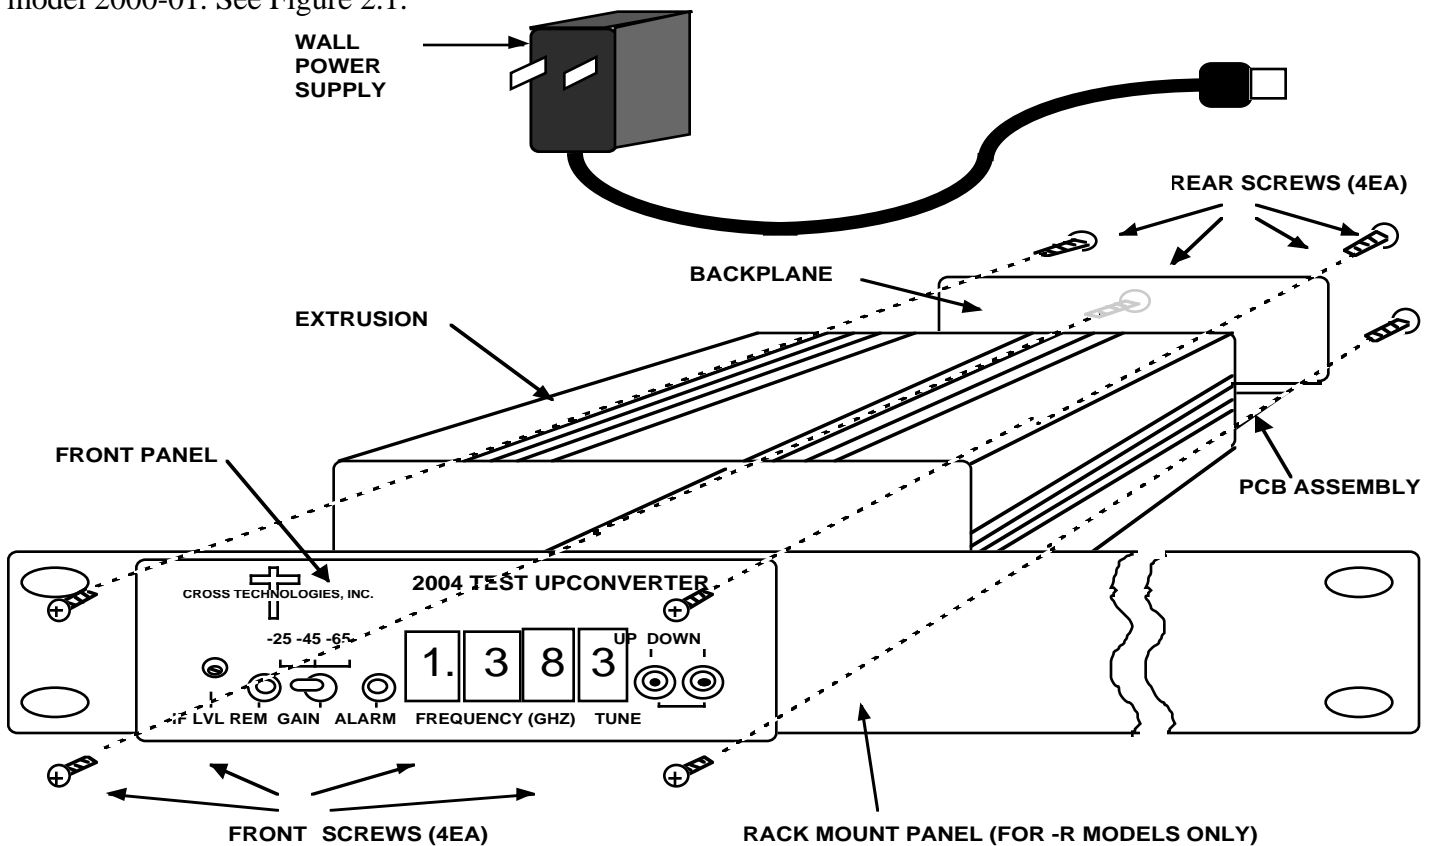
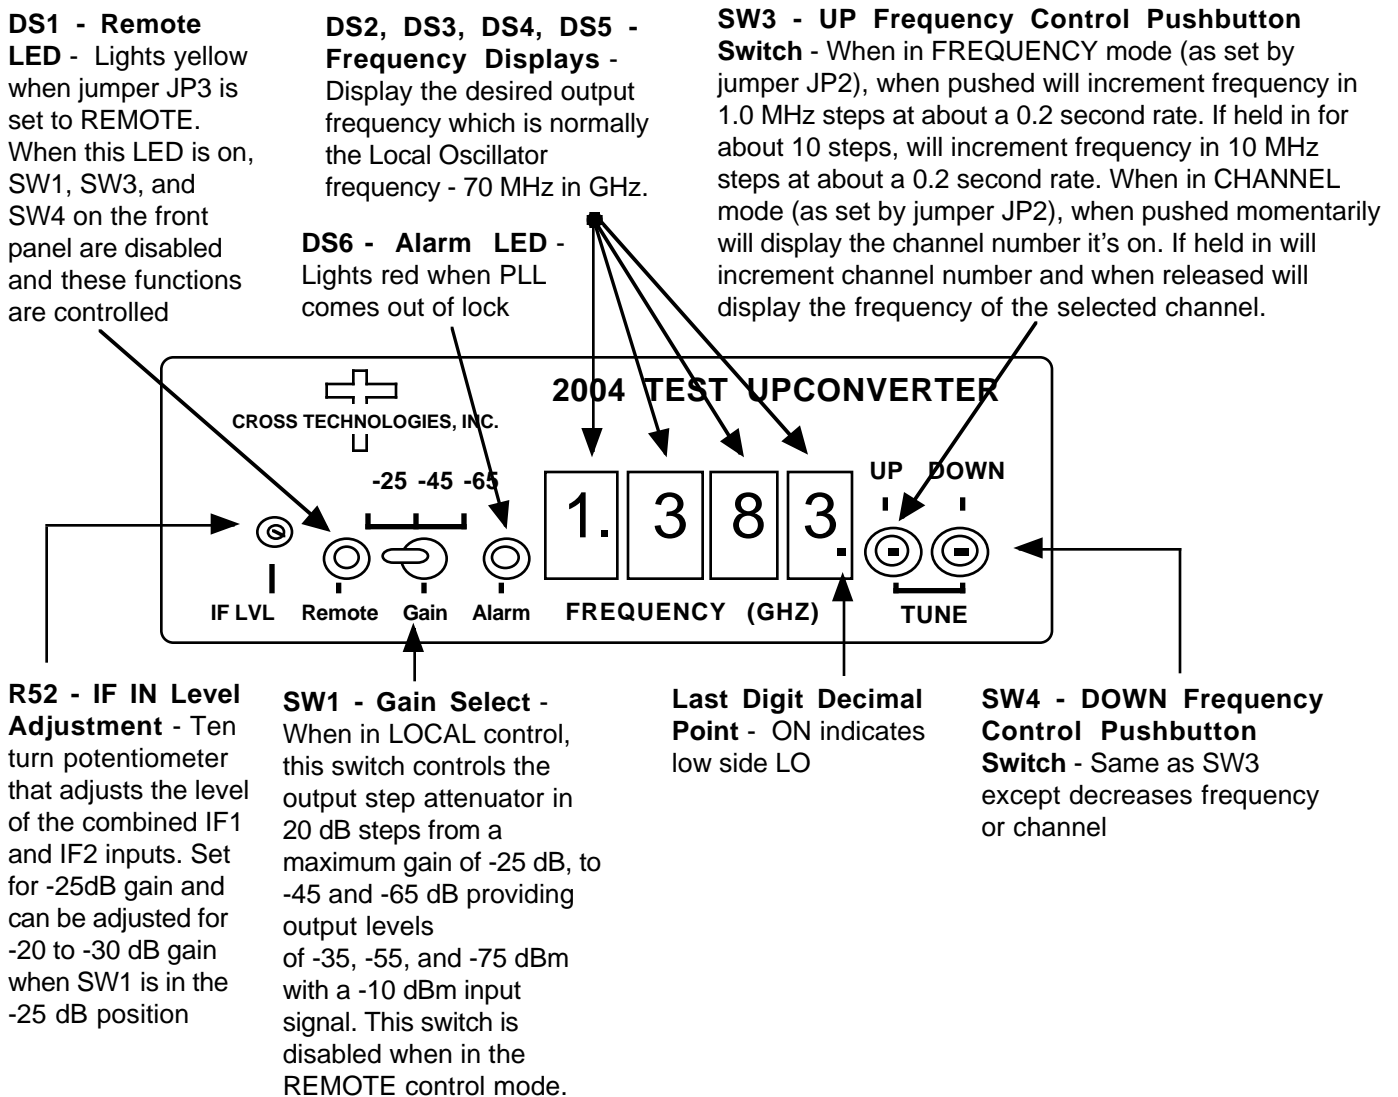
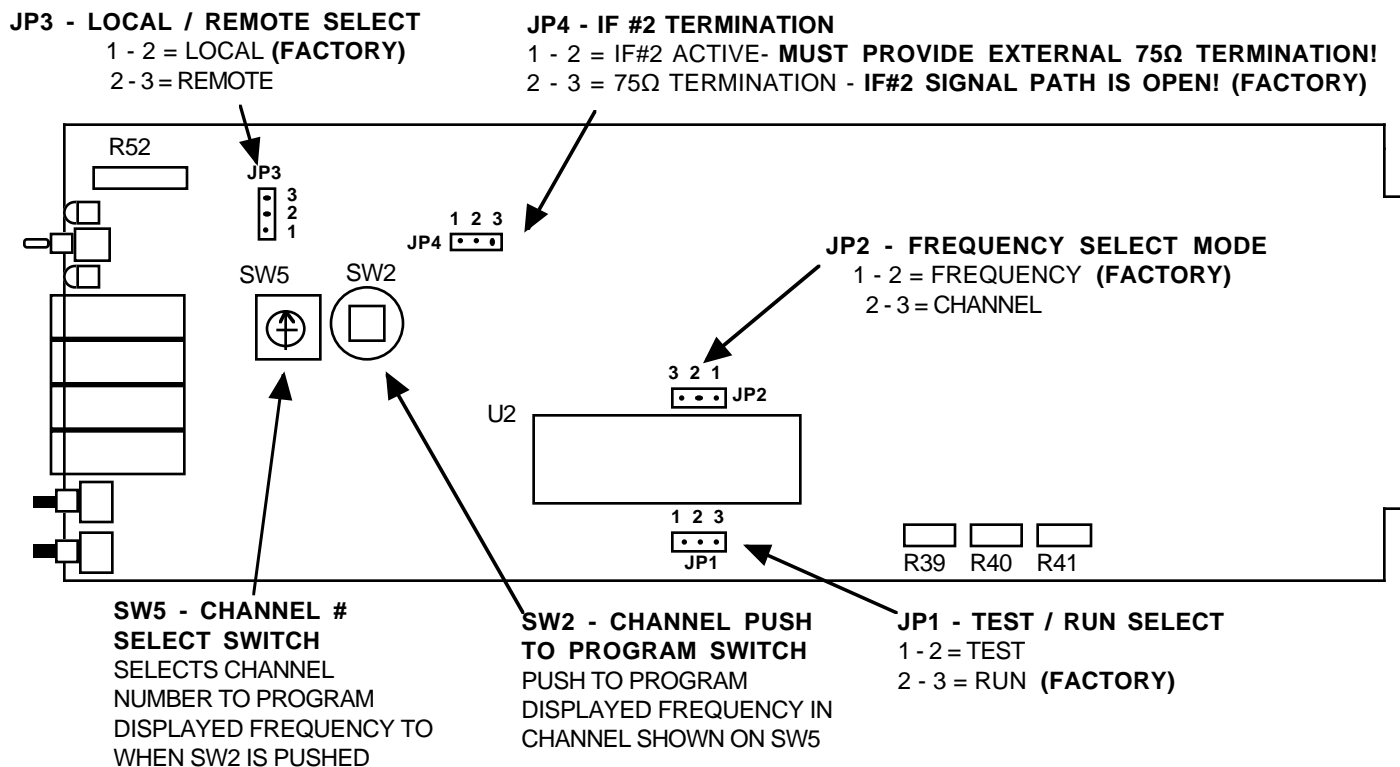

FIGURE 2.1 SERIES 2000 ASSEMBLY DRAWING
FIGURE 2.2 2004-10 Front Panel Controls and Indicators
FIGURE 2.4 2003 and 2004 On-Card Jumpers and Controls (See Section 2.4 for instructions on removing the PCB from the extrusion)
2.1 Mechanical - The 2004-10 and 2004-10R are packaged in an aluminum extrusion. The 2004-10R is mounted on a 1 3/4" X 19" panel that can be mounted to a rack using the 4 holes at the ends. Both units derive $\pm 15V$ from the wall power supply or an external regulated power supply such as the Cross Technologies, Inc. model 2000-01. See Figure 2.1.
2.2 Controls and Indicators - Figure 2.2 shows front panel controls and indicators.
2.4 Accessing and Changing On-Card Jumpers and Controls - Figure 2.4 shows jumpers (with factory settings) and other on-card controls. To remove the printed circuit board (PCB) from the extrusion for access to the jumpers and controls:
- 1.) Remove four (4) **rear panel screws** (see Figure 2.1).
- 3.) With the **wall power supply disconnected**, move jumpers to the desired positions (Figure 2.4).
- 7.) Install four (4) **rear panel screws**.
- 1.) If required, check that on-card jumpers are set to the desired positions (Figure 2.4)
- 2.) Connect the wall power supply to the 2004-10 and the wall power supply to 115 VAC, 60 Hz (Figure 2.1)
- 3.) Connect a -10dBm signal to IF #1 In (Figure 2.1, Figure 2.3)
- 4.) Connect a -10dBm signal to IF #2 In (Figure 2.1, Figure 2.3). If this port is not used it must be terminated in 75Ω by connecting on-card jumper JP4 in the 2-3 position (Figure 2.4).
- 5.) Set the desired frequency by pushing SW3 or SW4. If numbers 0 to 9 appear when pushing SW3 or SW4, the 2004-10 is set for the channel mode (with on-card jumper JP4, Figure 2.4). See section 2.5.2 for frequency setting information.
- 6.) Set SW1 for the desired gain (Figure 2.2).
- 7.) Be sure DS1 and DS6 are off (Figure 2.2).
- 8.) If needed, R52 can be adjusted (Figure 2.2) for input signals that are different than -10 dBm (-5 to -15 dBm). Note that this adjusts the levels of both IF #1 and IF #2 and uncalibrates the 2004-10 from its -10 dBm input setting.
- 2.) **To go to the change modes function**, simultaneously **press and release both the Up and Down pushbutton** switches (SW3 and SW4, see Figure 2.2). The current IF frequency is shown on the displays.
- 5.) **To check the selected IF frequency**, momentarily **press and release both the Up and Down pushbutton** switches (SW3 and SW4, see Figure 2.2)
2.5.4 Frequency Setting, Channel Mode - A second tuning mechanism is channel selection. This is accomplished when the on board three-pin jumper (JP2) (Figure 2.4) is set to the "channel" position. Ten preset channels (0-9) can be selected as follows:
1. The 2004-10 PCB is removed from the extrusion (see section 2.4 for instructions) to access the channel selecting decimal switch (SW5) and the push to program switch (SW2) (Figure 2.4). With the display mode jumper (JP2) set in the frequency mode, the frequency set switches (SW3,SW4) are pushed to the frequency desired (Figure 2.2).
2. The decimal switch (SW5) is set to the channel number desired to be programmed (Figure 2.4).
3. Push programming button (SW2) to program the displayed frequency into that channel number (Figure 2.4).
5. When finished, set JP2 (Figure 2.4) in the "Channel" position if this tuning mechanism is desired.
2.5.5 Remote Operation - Frequency control and setting of the output attenuator can be remotely commanded from an external (not supplied) PC using a simple DOS program. To place the 2004-10 in the Remote mode, place on-card jumper JP3 in the REMOTE (pins 2-3) position (Figure 2.4) and observe yellow LED DS1 (Figure 2.2) is on. Serial ASYNC (8N1) data is received via RS232C receiver U4 and sent via RS232C transmitter U13 at a 9.6kB/s data rate. When in the remote mode, either frequencies or channel numbers can be provided, but programming the frequencies of the channels can only be done locally. When in the remote control mode, the selection of U6 and consequently the output attenuator U16, U24 is controlled through the remote serial port disabling the function of front panel attenuator control switch SW1 and providing gain selection of -25 dB, -45 dB or -65 dB.
3.2.3 Frequency Setting, Channel Mode - A second tuning mechanism is channel selection. This is accomplished when the on board, but not front panel accessible, three-pin jumper (JP2) (Figure 2.4) is set to the “channel” position. Ten preset channels (0-9) can be selected as follows:
5. When finished, set JP2 (Figure 2.4) in the “Channel” position if this tuning mechanism is desired.